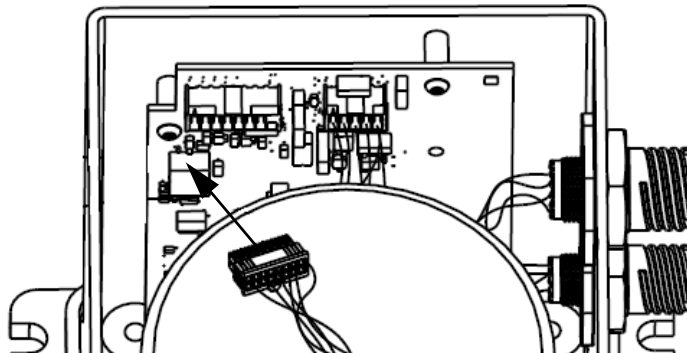

Figure 36: Attach Samtec Connector
2. Connect the Samtec connector at the other end of the wiring harness to the corresponding connector on the internal IMU card, see *Figure 36*. Ensure that the connector is locked in place.